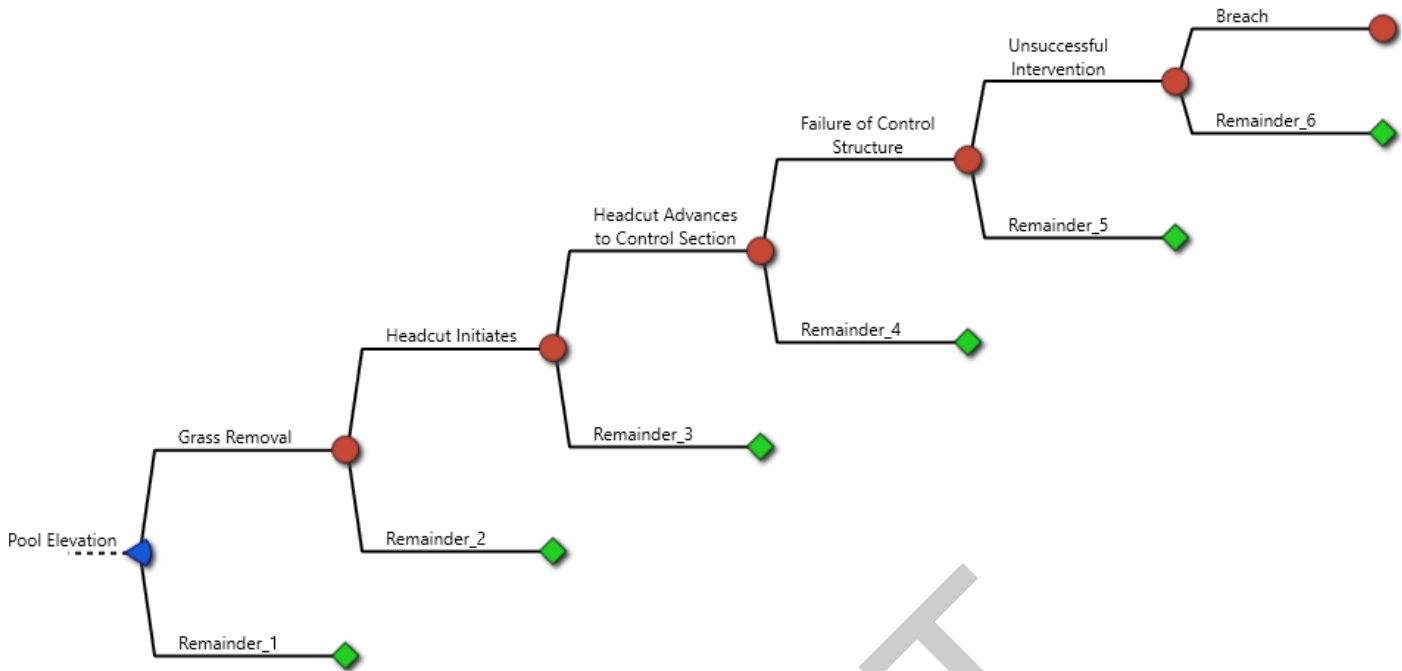

Figure 90 – Completed spillway erosion event tree.
- Continue this process of adding nodes and defining the properties until the event tree is complete as shown in Figure 90 below.